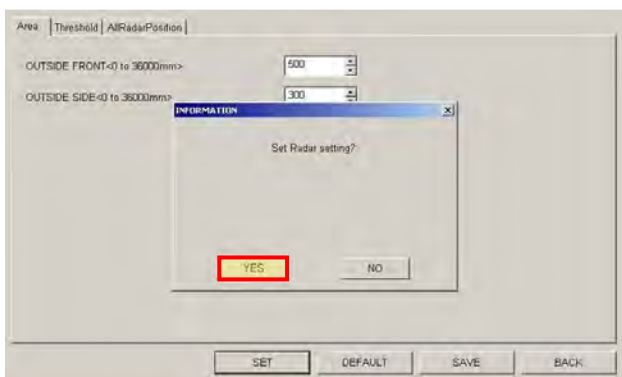

FIGURE 30-45. RADAR SCREEN
- a. Select YES in the "Set Radar setting?" screen. See Figure 30-45.